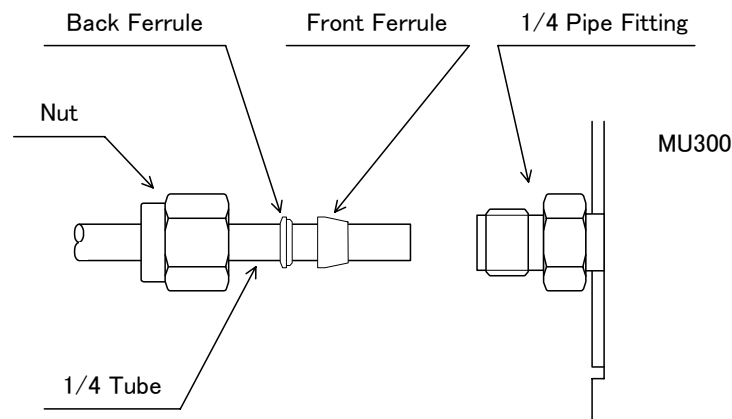

Fig. 4.3 Piping procedure
- d) Insert the nut and ferrules into the tube until the end of the tube comes to the main body of the joint, and screw the nut by hand until it is locked. (Fig. 4.3)